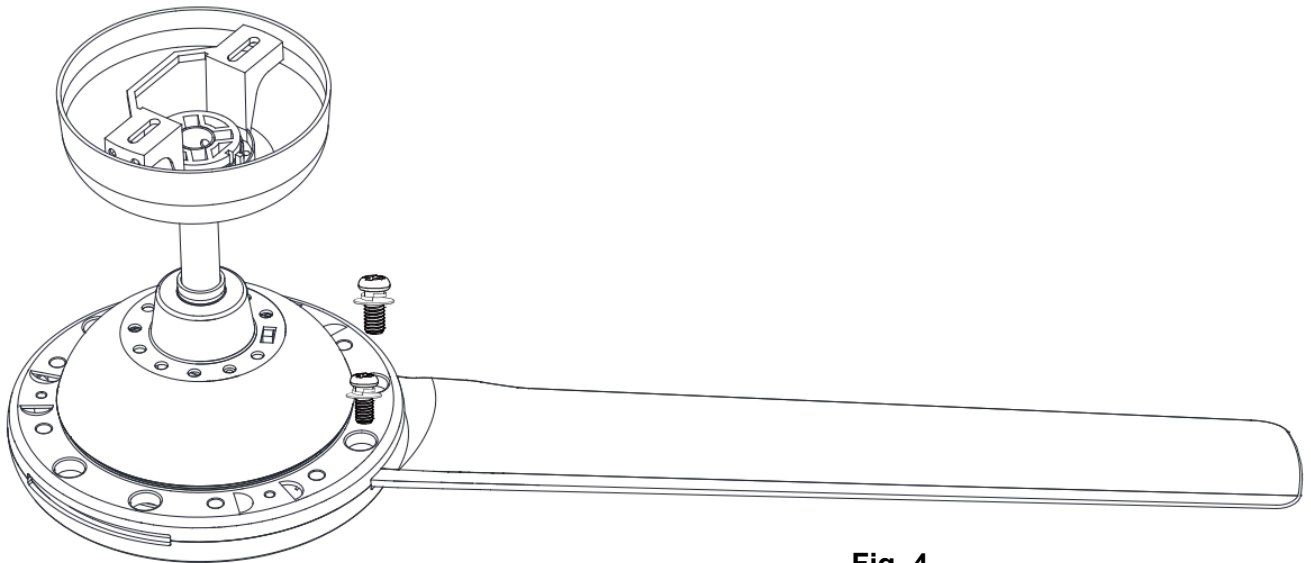

Fig. 4
1. insert the blade into the slot of rotating member of fan motor assembly. Align the 2 holes on the blade with the 2 holes on the rotating member of fan motor assembly and using 2 blade screws with lockwashers (supplied in fan parts bag) to secure the blade to the fan motor assembly. (Fig. 4)